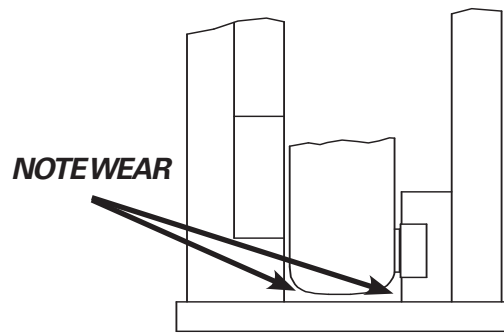
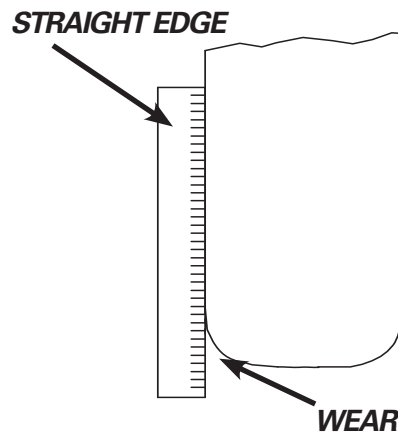
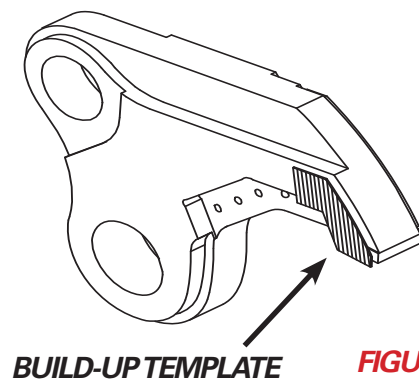

FIGURE 7-39
FIGURE 7-40
FIGURE 7-41
1. To check for wear, close the shear jaws so the piercing tip is just entering into the lower jaw (see Figure 7-39). The piercing tip should fit squarely into the lower jaw. To determine how much build-up is required, place a straightedge along the cutting blades and extend beyond the tip, or use the upper template supplied by LaBounty (Figure 7-40). There will be a gap indicating how much build-up is required (see Figure 7-41).